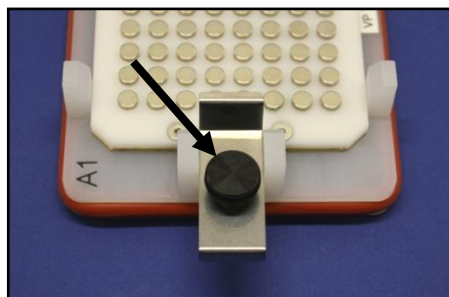

Figure 3. Clip thumbscrew.
- B. **Loosening the microplate clip.** This adjustment affects how easily the microplate clip slides over the microplate skirt lip or top of microplate. Simply tighten the thumbscrew to prevent the clip from sliding or loosen to allow the clip to move (Figure 3).